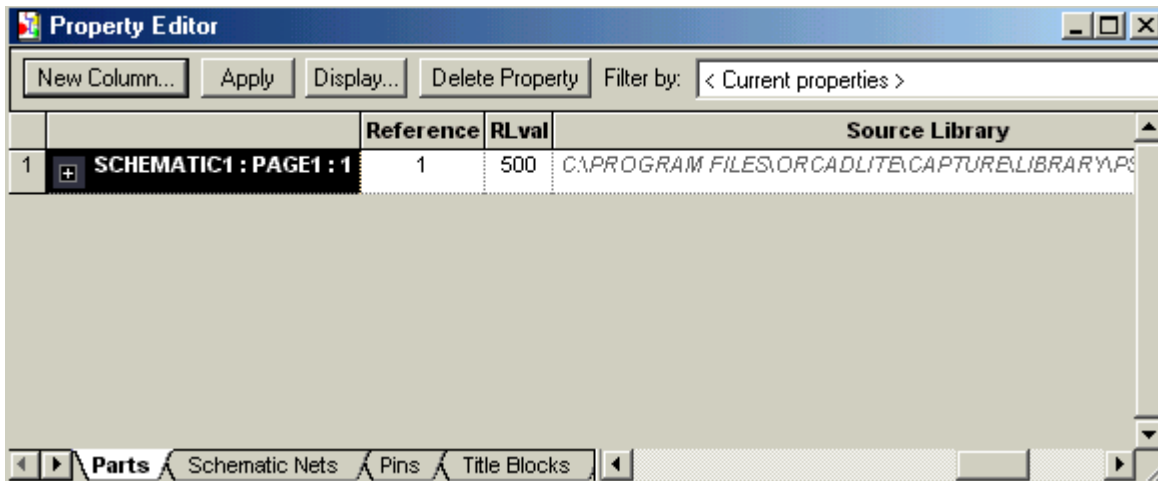

Figure 3.4.4: Property Editor window for the PARAM part, showing the newly created RLval column.
- You will notice that the new column $RLval$ has been created. Below the $RLval$ enter the initial value for the resistor: lets make it 500, as shown in Figure 3.4.4 below.